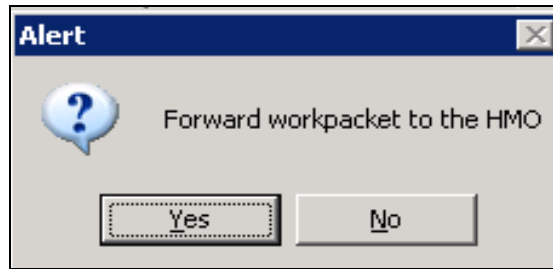

Figure 10-77: Forward Work Packet Dialog Box
20. Click the SUBMIT FOR HMO APPROVAL button. The Forward Work Packet dialog box is displayed (Figure 10-77).